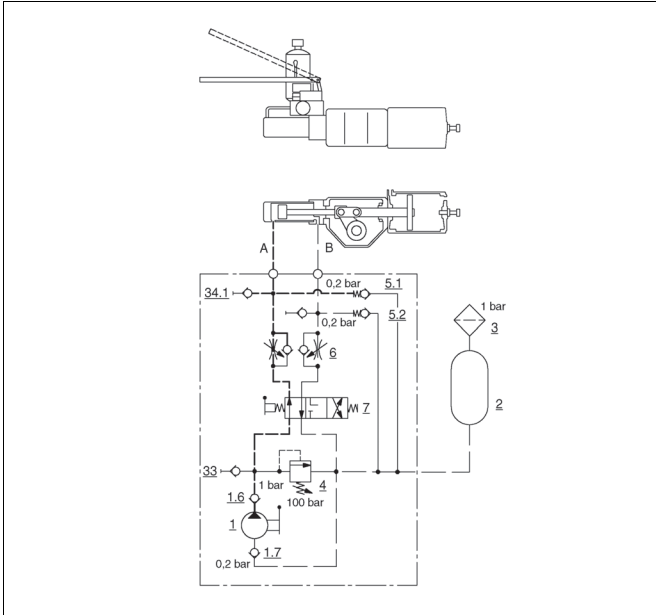

Fig. 12 Operating principle of the hydraulic pump unit on manual control, operating to closed position
To operate the valve to close, push the control lever of the 4/3-control valve (7) (see Fig. 12) towards the pneumatic cylinder (in the "closed" position shown on the plate) while pumping back and forth with the hydraulic pump (1) until the valve is closed. The control lever can now be released, and it will return to the centre position. (In this position, it can be operated pneumatically provided that the by-pass valve is open.)
The maximum pressure of each actuator is set at the factory with the pressure relief valve (4), see Table 1, and the pressure can be measured from the take-off point (33), R 1/4, see Fig. 12 and Sections 9.5, 9.6 and 9.7.